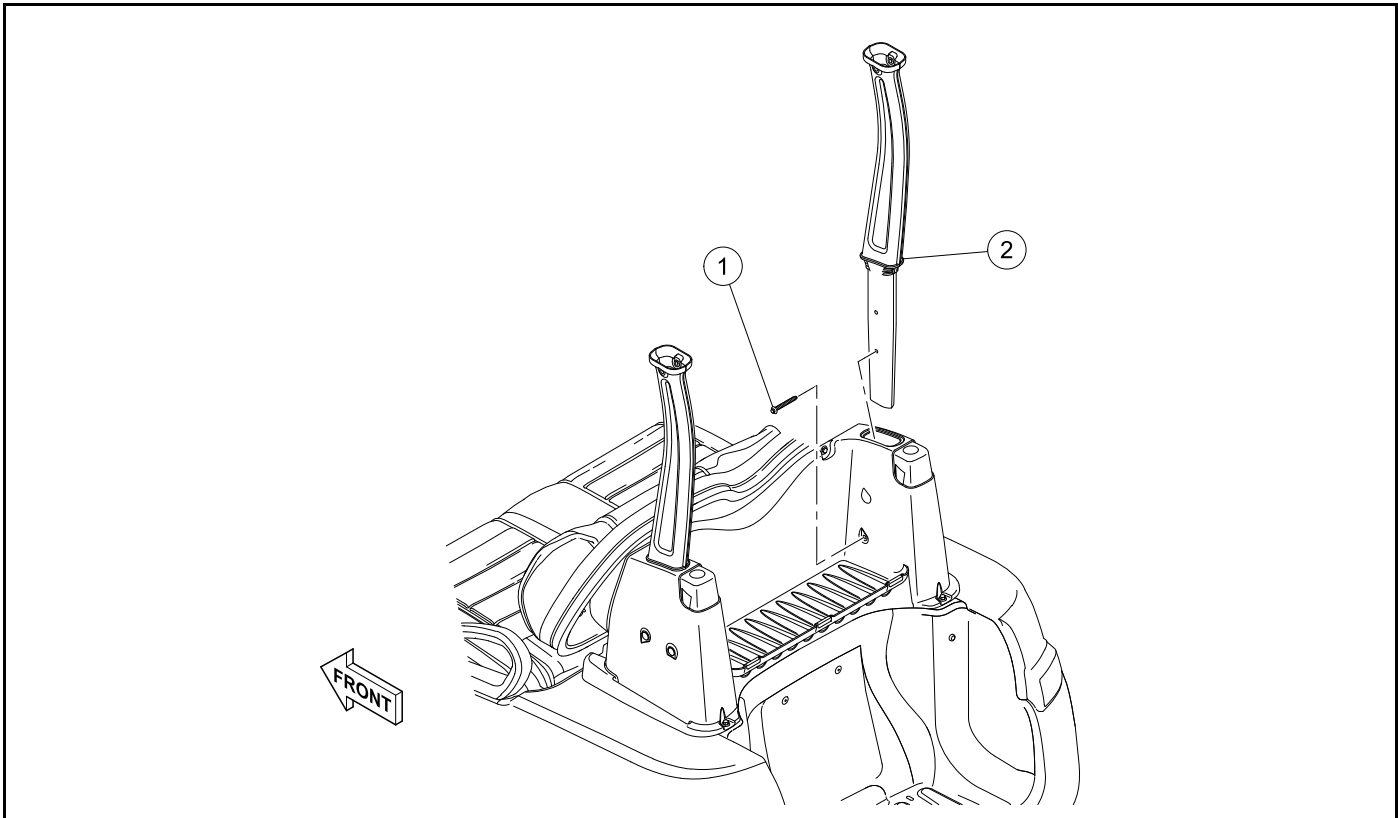

Figure 4-24 Rear Canopy Support Removal
2. Remove the screw (1) (Figure 4-24).
3. Remove the rear canopy support (2).